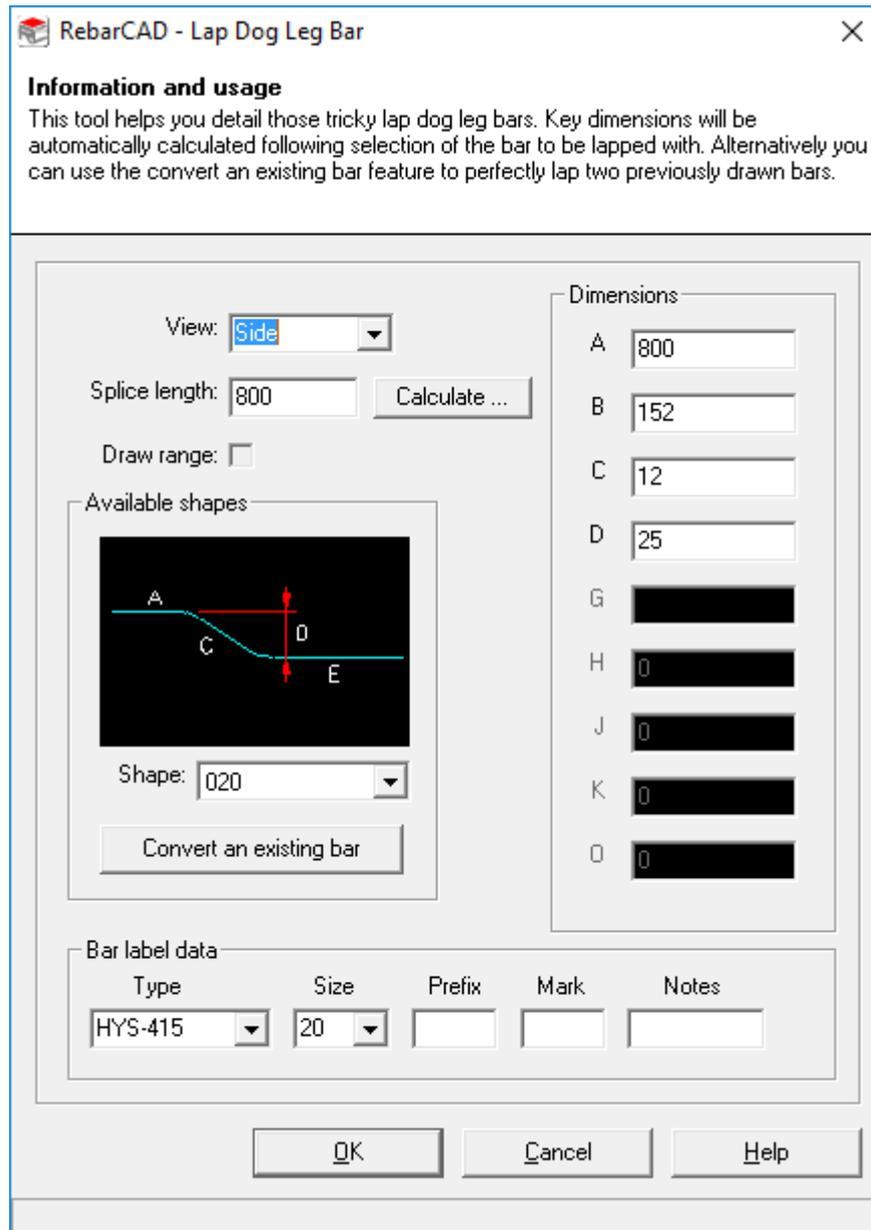

Figure 12.4.1:2 Lap Dog Leg Bar dialog
- ▶ Set the fields in the Lap Dog Leg dialog as indicated in figure 12.4.1:2.